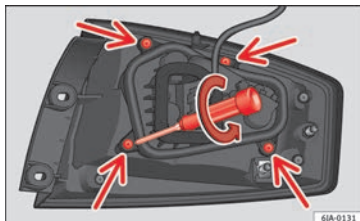

Fig. 155 Retaining screws on reverse side of rear light unit.
- Unscrew the four retaining screws from the bulb holder anti-clockwise using a screwdriver or a Torx 20 key (T20) from the vehicle tool kit » **Fig. 155**. Take care not to lose the bulb holder retaining screws.